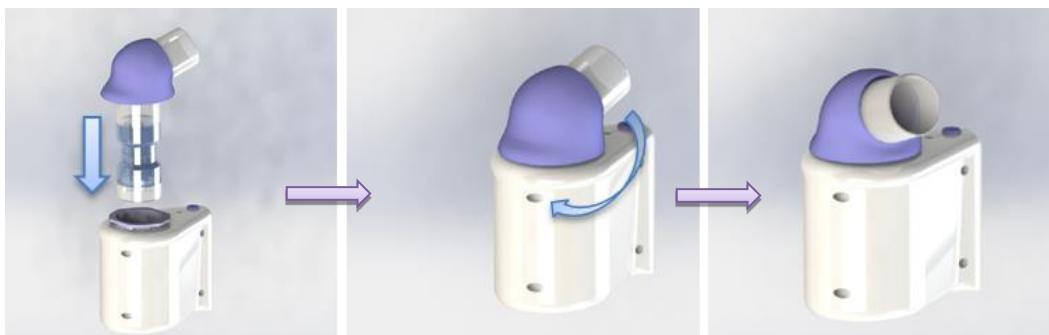

Figure 4 Insert transducer for left hand use
- 8.3. If using your left hand to hold the GoSpiro is more comfortable for you, install the Turbine Assembly as following (steps showing in Figure 4):